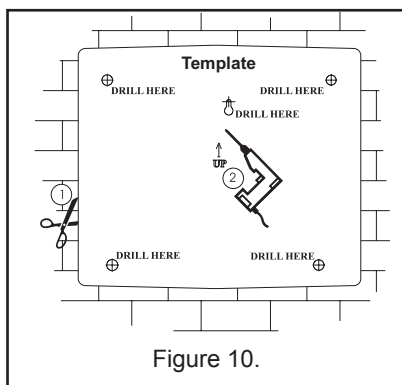

Figure 10.
1. Use the provided profile board (see the back of the packaging) to drill mounting openings (6 - 8 mm) at the installation location - Figure 10.